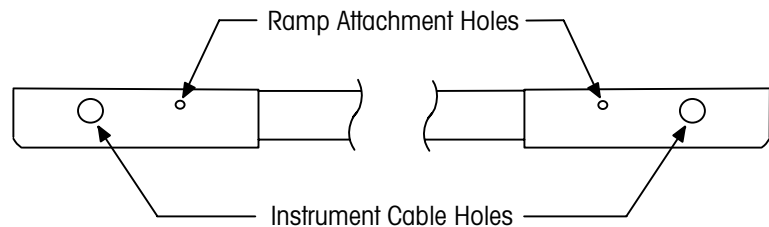

Figure 4-1: Side View of Scale Frame
1. After the frame is anchored to the floor (but with the platform not installed), locate the two holes on the side of the scale frame where the ramp is to be attached (see Figure 4-1).